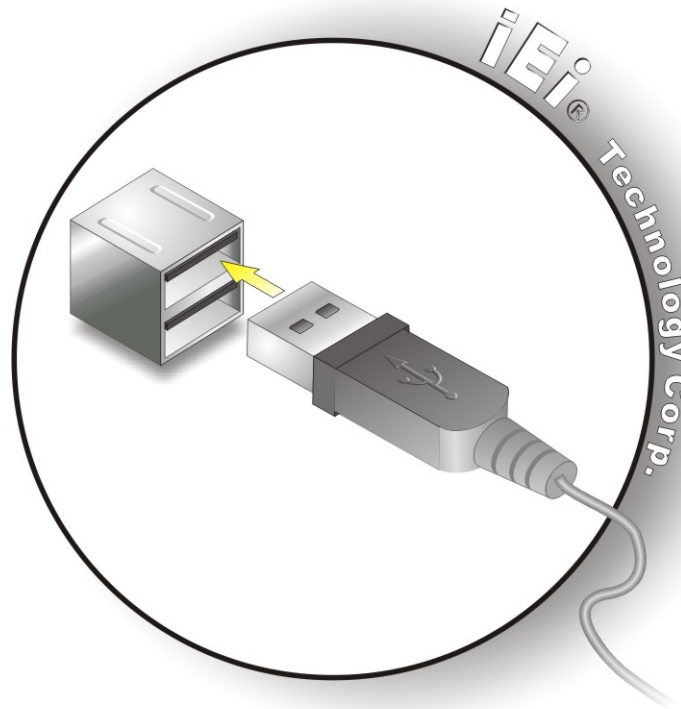

Figure 4-19: USB Connector
- Step 2:** Insert a USB Series "A" plug. Insert the USB Series "A" plug of a device into the USB Series "A" receptacle on the external peripheral interface. See **Figure 4-19**.